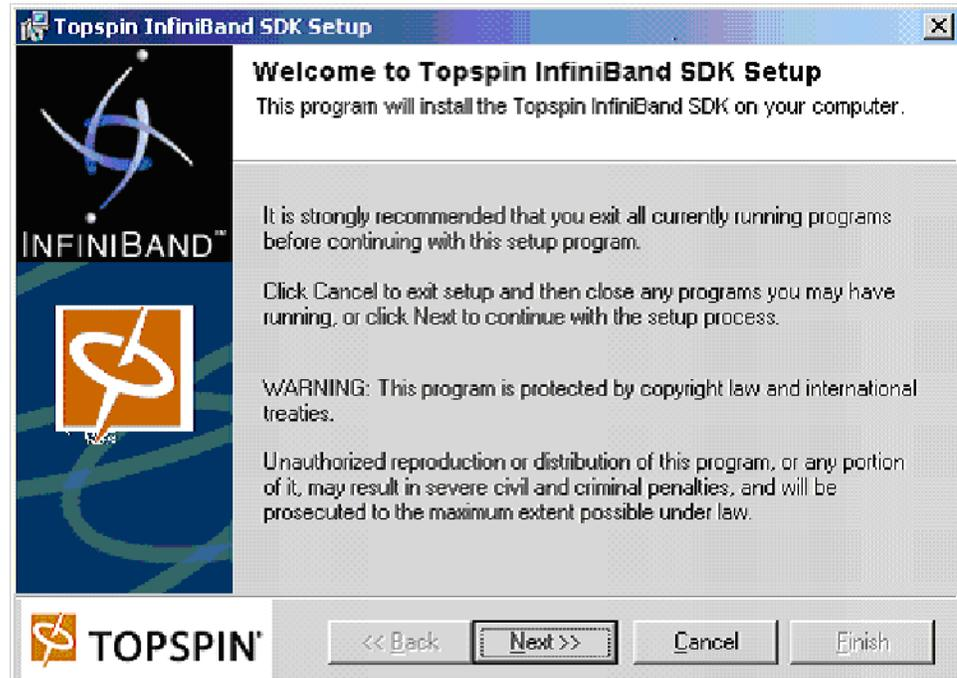

Figure 2-5: Welcome Screen
3. Insert your driver CD (or download drivers from <http://support.topspin.com>) and run `Topspin-ib-W2k-releaseNumber.exe` from your CD. The **Topspin InfiniBand SDK Setup** window opens (Figure 2-5).